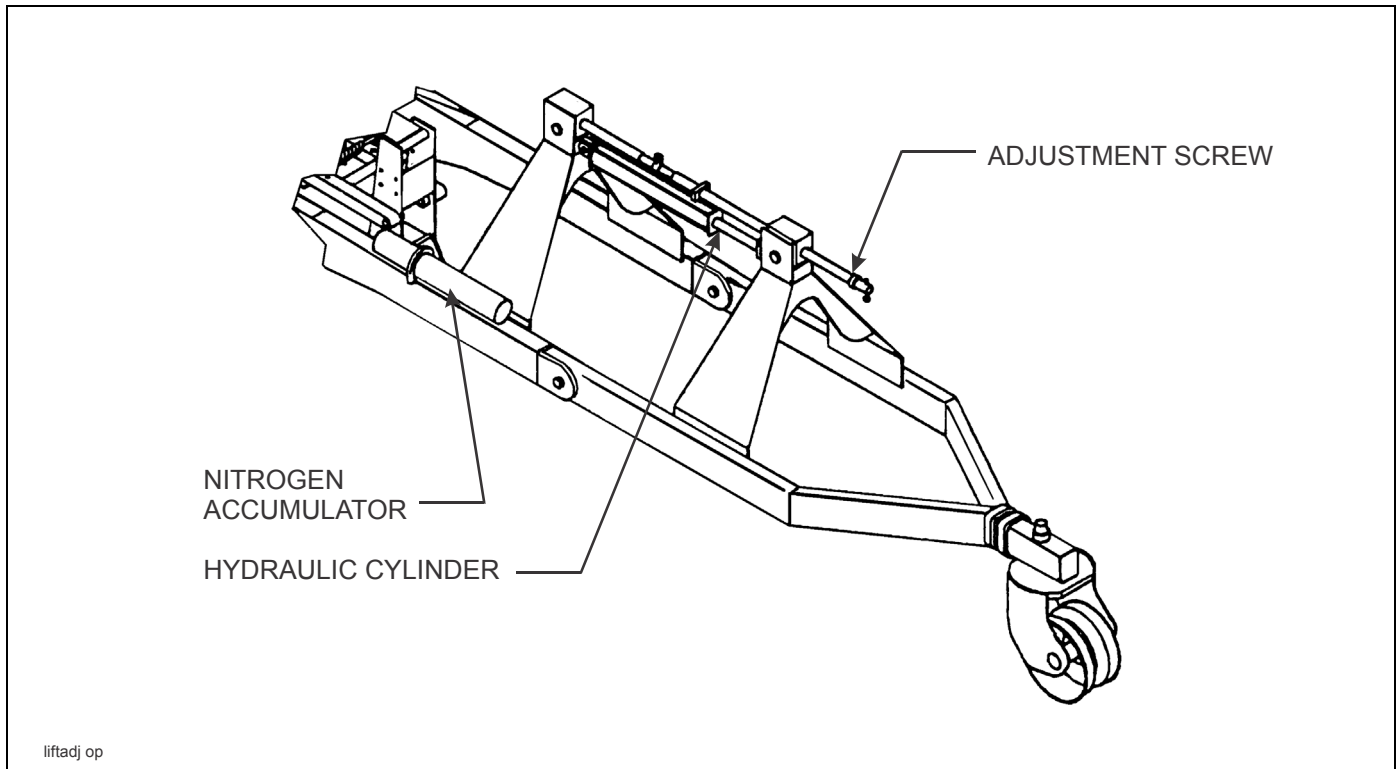

Figure 4-9: Lift Assist Wheel Adjustment
8. The Nitrogen accumulator (**See Figure 4-9**) on the Lift Wheel Assist provides protection for the hitch mast and tractor three-point top link, when fully mounted. It also serves as a cushion to shock loads when the raised implement is maneuvered. Oil is transferred from the cylinder to the Nitrogen accumulator while moving over uneven ground to relieve excess stress. After moving back to level ground, pressure build-up within the accumulator forces oil back into the cylinder. This provides lift assist, which is preset by the adjustment screw. **See “Lift Assist Wheel” on page 4-9 BEFORE** adjusting this screw.
Adjust the optional lift assist wheel so that when the machine is in use, the lift assist wheel is lifted clear of the ground. Raise or lower the lift assist wheel, as needed, with the adjustment screw on top of the lift assist wheel frame (See Figure 4-9.)